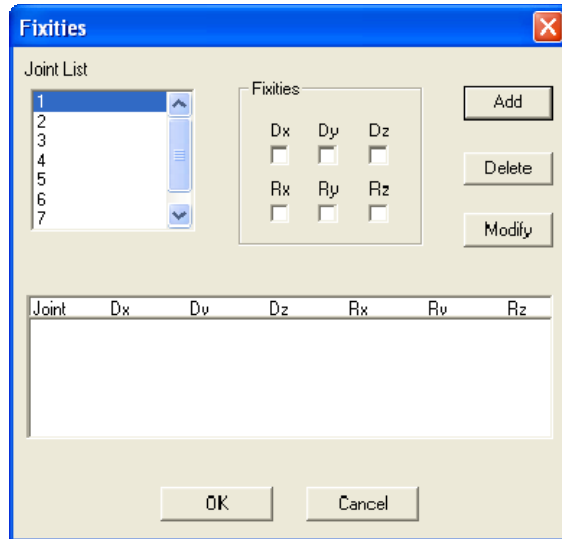

Figure 3-20 Fixities dialog box
- Figure 3-20 appears. Some options may not be available depending on the structure type selected.